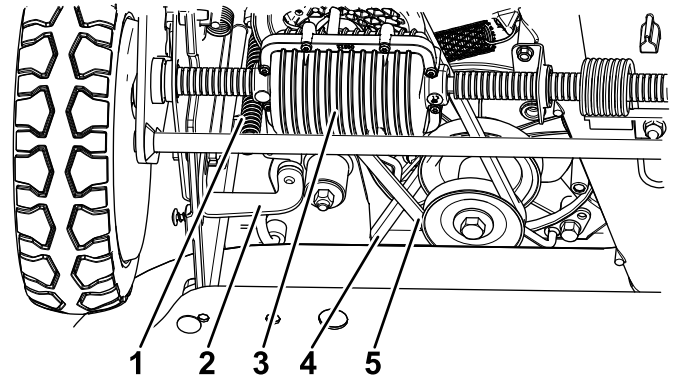

Figure 43
6. Loosen the bracket and rotate the bracket forward (Figure 43).